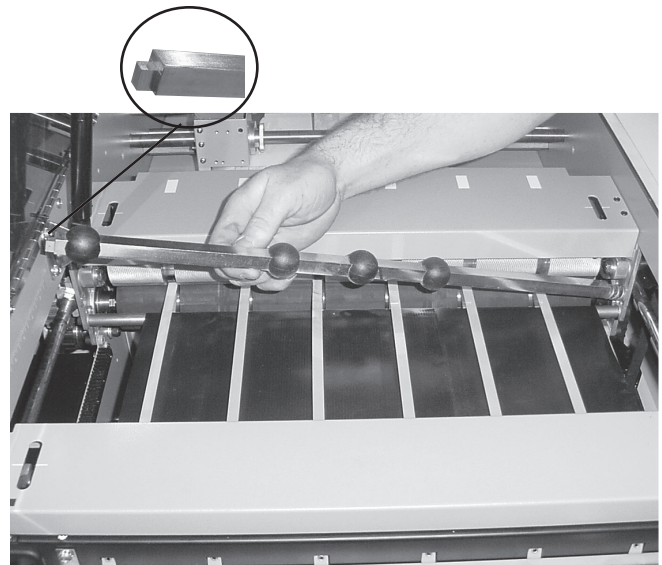

Fig 13
5. The tear bar is adjustable to accommodate characteristics of various forms. To adjust height bar must be pushed to compress spring and lift out. Rotate 180 degrees (turn over) and replace, making sure that the square end of bar locks into brackets. (Fig. 13, shown in HIGH position)